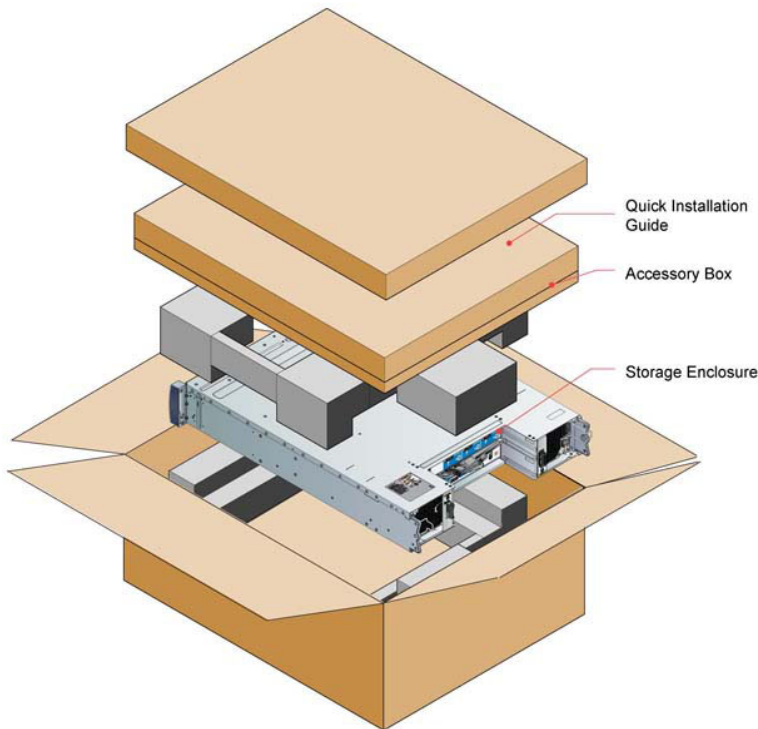

Figure 3-2 - Unpacking an Enclosure System
2. The unpacking procedure is shown in Figure 3-2.